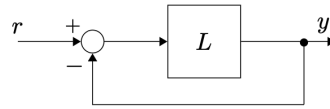

Figure 5: Closed-loop system.
**Problem:** Consider the closed-loop system as shown in Figure 5.